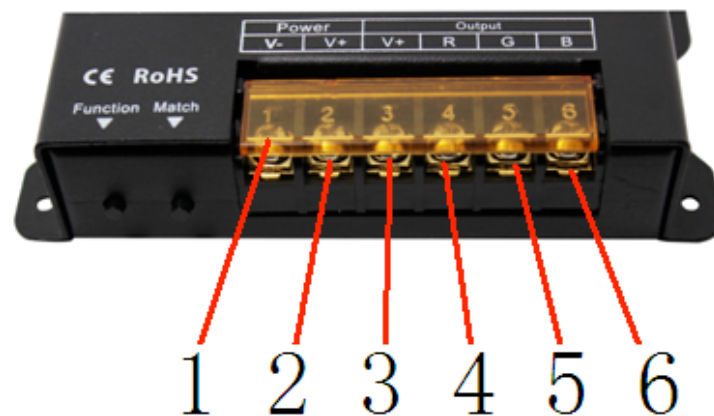

Figure 4
7. Input/ Output interface: the controller power supply input and load output port, please refer to Figure 4 and Table 1 for detailed description.